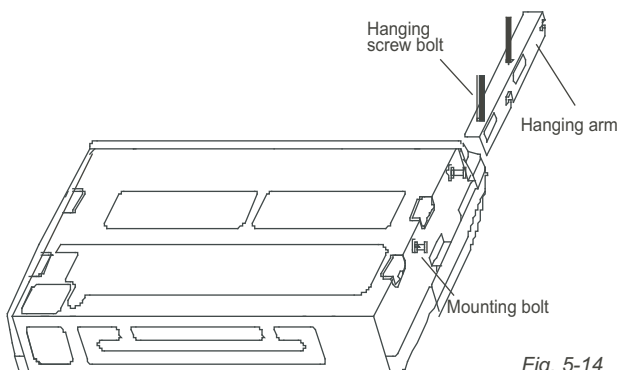

Fig. 5-14
- Hang the unit on the hanging arm by sliding backward. Securely tighten the mounting bolts on both sides. (Refer to Fig. 5-14) (some of the models 60 do not do this)